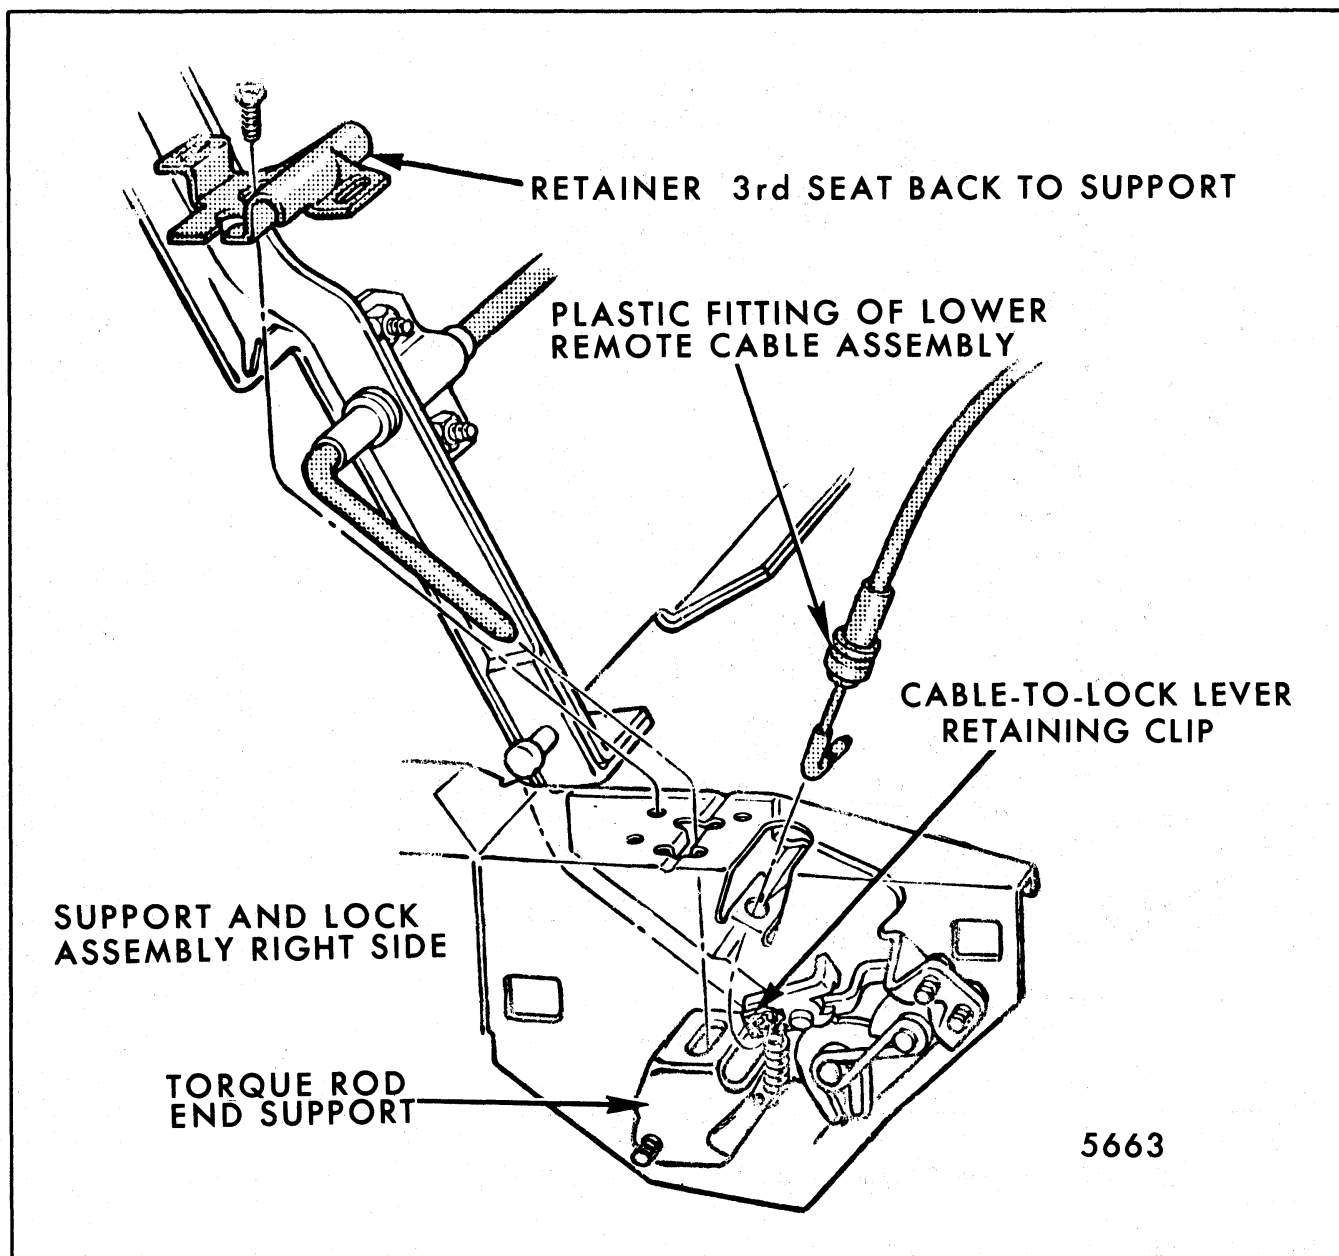

Fig. 9-105-Folding Third Seat Back Lock Assembly and Remote Cable Attachment at Lock - "B" Body Three-Seat Station Wagons
3. Carefully lift seat back assembly upward to disengage right end of torque rod from retaining slot in lock frame and from slot in lock support (Fig. 9-105); then remove seat back assembly.
3. With seat back in "up" position remove lock attaching screws (Fig. 9-105).
4. Detach lock remote control cable from clip on lock lever (Fig. 9-105); then disengage lock from lock striker on seat back and from end of torque rod.
- b. With seat back in "up" position and working through opening at rear of lock disengage (break if necessary) clip securing control cable to lock lever (Fig. 9-105) and detach cable from lock.
- c. Carefully disengage cable plastic fitting (Fig. 9-105) from hole in lock support and remove cable assembly.